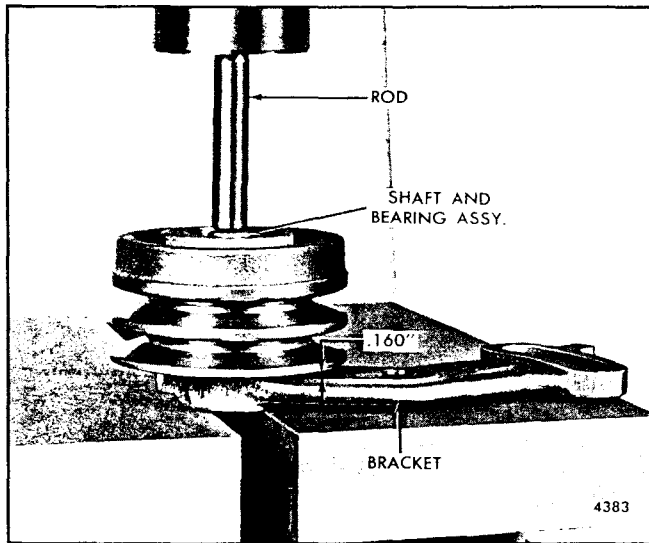

Fig. 4 - Installing Shaft and Bearing Assembly and Pulley in Bracket
2. With a short rod, apply pressure on the shaft only (Fig. 4) and press the shaft and bearing assembly with the pulley into the idler pulley bracket. The distance between the outer edge of the pulley and the bracket must be .160".